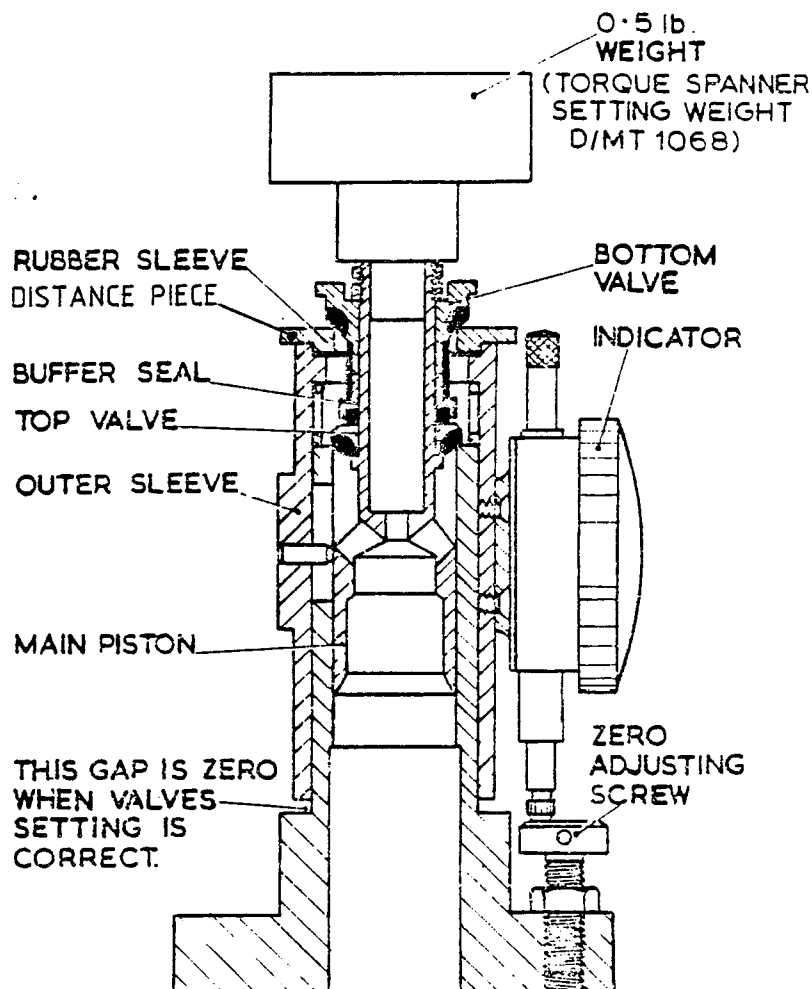

Fig 3 Checking rig for poppet valve
9.3 Place the checking jig distance piece over the bottom valve as shown in Fig 3, so that the largest diameter of the distance piece is towards the bottom valve.
- 9.7 Mount the assembly in the jig, as shown in Fig 3, and place the weight in position.